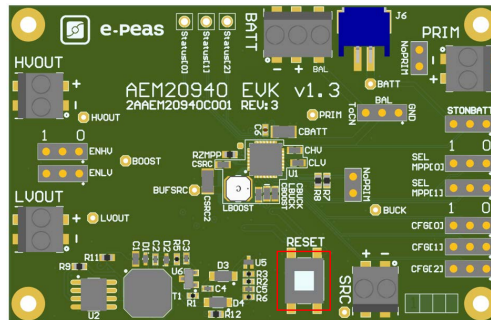

Figure 2: Board Reset
1. Reset the board - see “How to reset the AEM20940 evaluation board” on Figure 2.